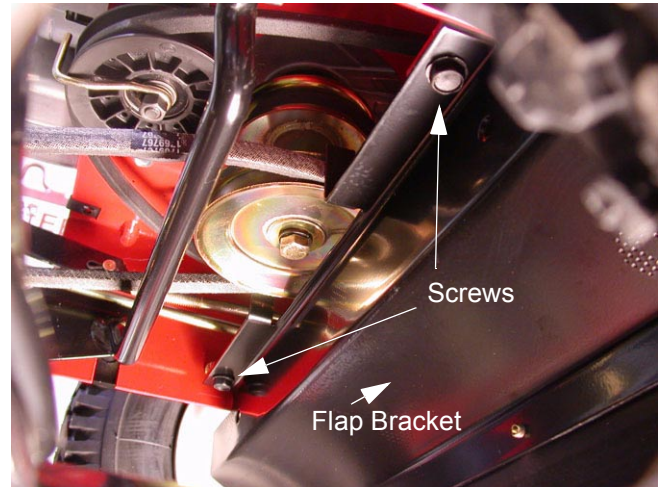

Figure 23
- 7.2. Using a 1/2 inch socket, remove the two screws attaching the flap bracket to the frame. Remove the flap bracket. See Figure 23.